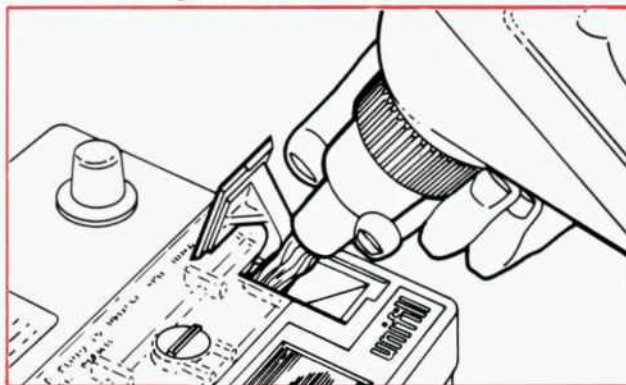

Figure 3—Adding Water To Unifill Battery
2. Open the gold-colored Unifill door and add water at a steady rate until the top channel is filled and water reaches and stays at the "level" mark in the Unifill door opening (Fig 3).